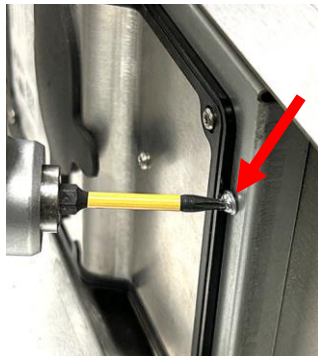

Figure 23
23. Using the eight (8) supplied screws, attach the metal frame to the controller with a #10 torx driver (see Figure 23). Torque carefully to 6lbs to avoid breaking plastic of the controller. **DO NOT OVERTIGHTEN the screws.**